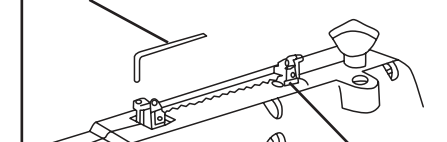

Fig. 7
- Place the blade and adaptors into the gauge to set the blade to the proper length in the table, and securely tighten the other setscrew with the wrench provided. (Fig. 7)